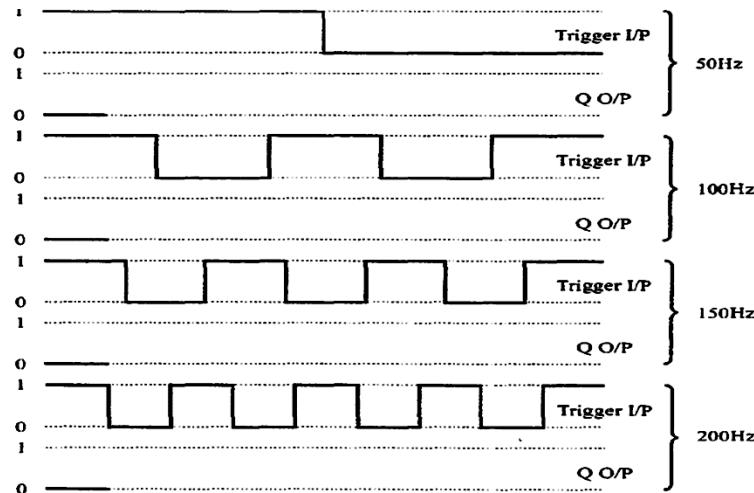

Figure 54
12. Repeat the procedure for signal generator trigger input frequencies of 100, 150 and 200Hz, completing the Q output waveforms for each frequency in Figure 54. You will find that the duration of the unstable state remains constant for all input frequencies.